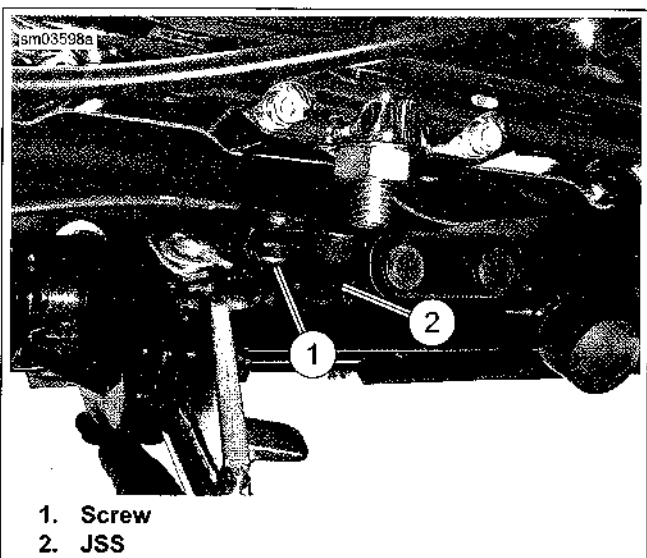

Figure 6-104. JSS
4. See Figure 6-104. Remove screw (1). Remove JSS (2) and harness.